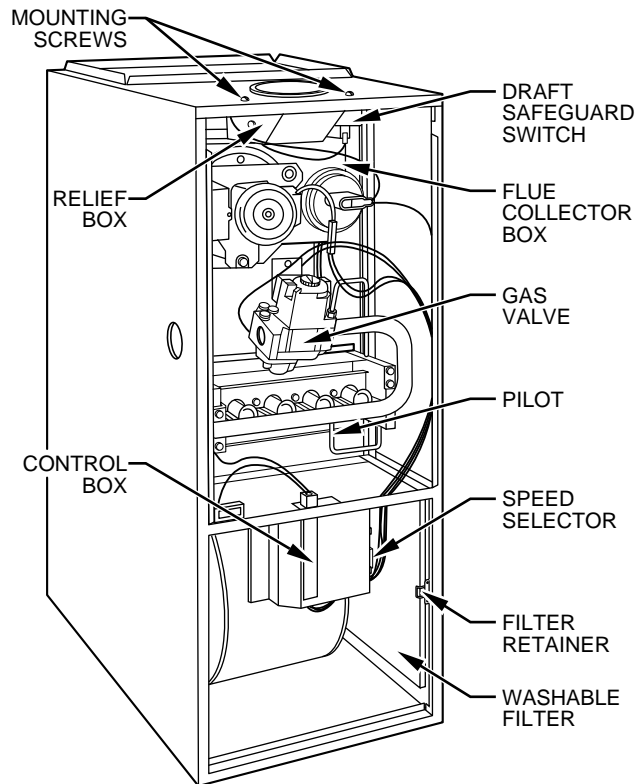

Fig. 4—Model 58GFA Upflow
Each furnace requires 1 or 2 filters which are installed in the blower compartment. (See Fig. 4.)
- c. Release filter retainer from clip at front of furnace casing. (See Fig. 4.) For side return, clips may be used on either or both sides of the furnace.
5. Remove electrical leads from numbered side of blower speed selector. (See Fig. 4 and 5.) Note location of wires for reassembly.
4. Remove 2 screws that secure relief box. (See Fig. 4 or 5.)